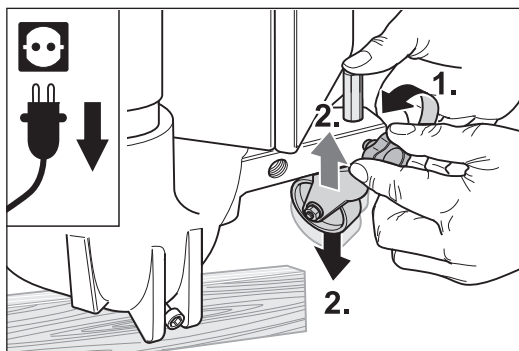

Fig. 25 Undo the star grip screw carefully and then adjust the guide roller.
- 4 Undo the star grip screw on the guide roller arm of the fan housing carefully (Fig. 25).